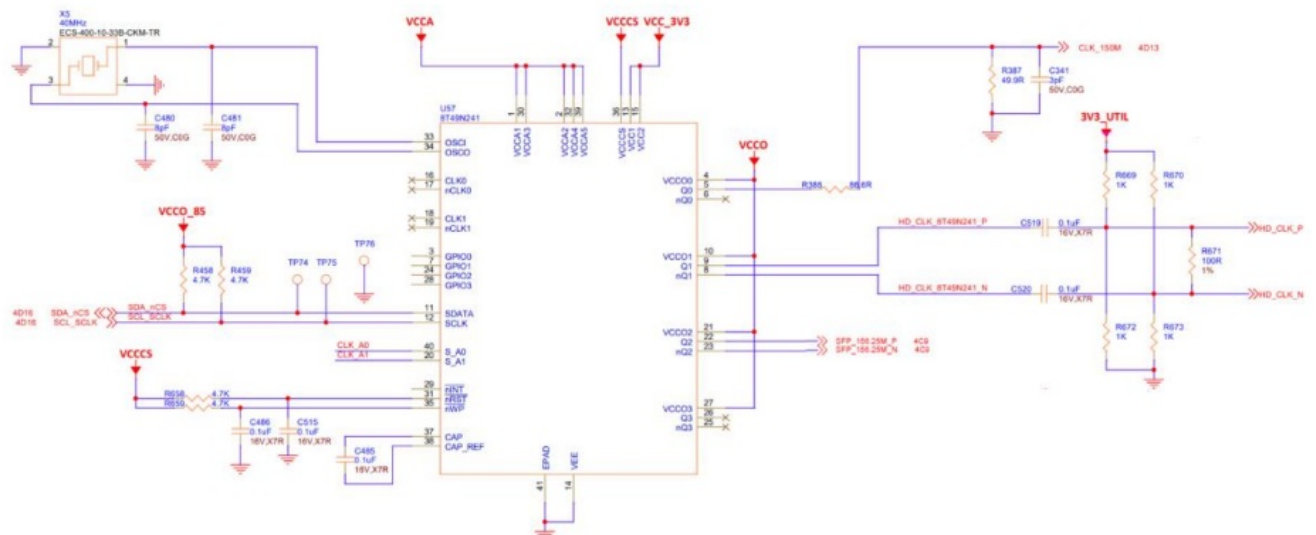

Figure 14 – Second Programmable Clock Source
- The second programmable clock source circuit is shown in Figure 14.